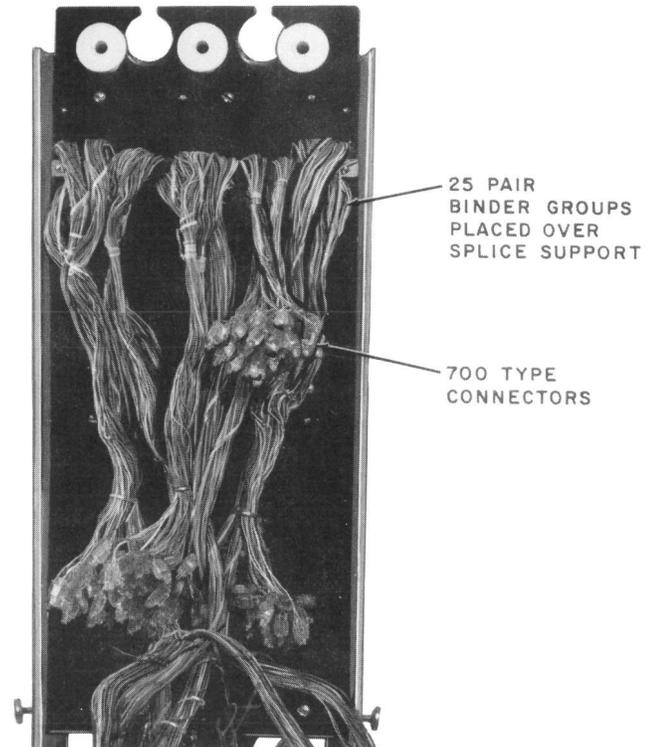

Fig. 25—Splice in Back of Closure (LG-10/43)
- 10.11** Figure 25 illustrates the back of the closure used for splicing.